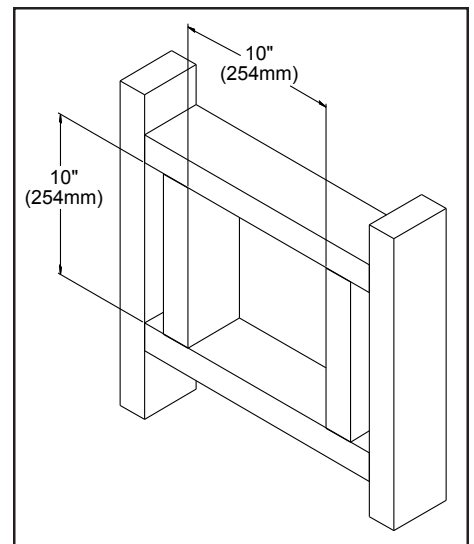

Figure 17: Wall Framing Hole for Horizontal Installation.
STEP 3. With the pipe attached to the stove in the correct location, mark the wall for a 10" (25.4 cm) x 10" (25.4 cm) square hole (refer to Figure 17). The center of the square hole should match the center line of the horizontal pipe. Cut and frame the 10" (25.4 cm) x 10" (25.4 cm) hole in the exterior wall where the vent will be terminated. Refer to Figure 8. If the wall being penetrated is constructed of non-combustible material i.e. masonry or concrete, a 7 inches (17.8 cm) hole is acceptable.